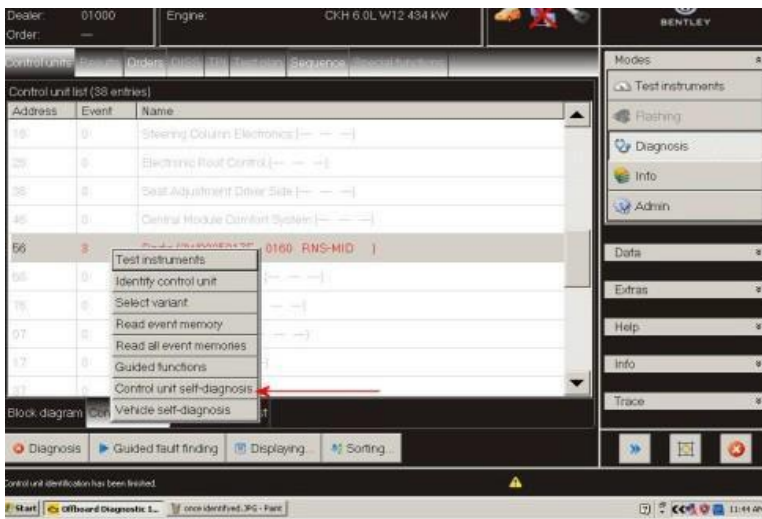

Figure 3
- Once the control module has been identified by the diagnostic program touch, hold then release the selected box again to reveal drop down menu this time select *Control unit self- diagnosis*(see Figure 3)